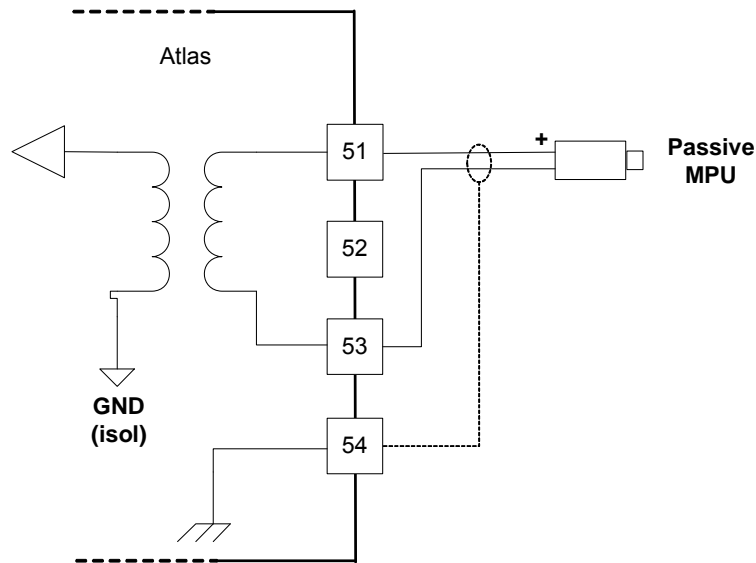

Figure 6-4. Wiring Example—MPU Interface to the SmartCore Board
- Refer to Figures 6-4 and 6-5 for speed sensor wiring.